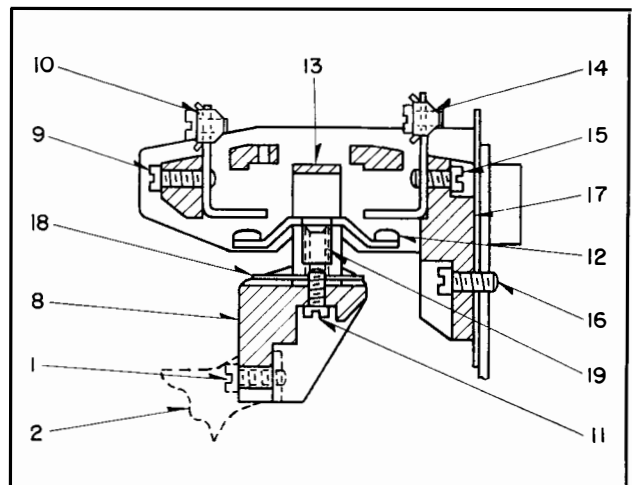
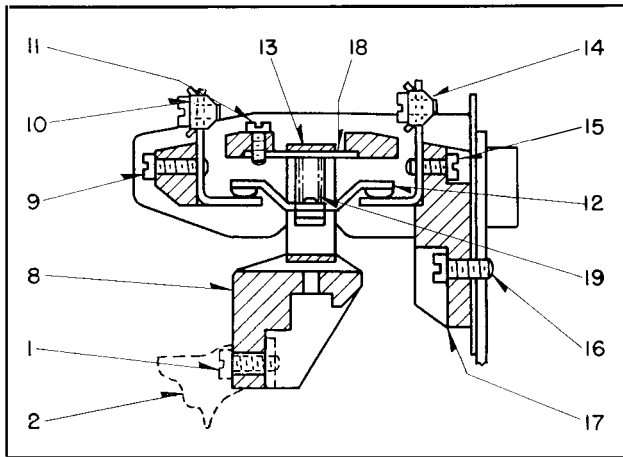

FIG. 2. Typical Normally Open Contact in De-Energized Position
FIG. 3. Typical Normally Closed Contact in De-Energized Position
Changing Contacts From N.O. To N.C. (Refer to Figs. 2 and 3) — To change N.O. contact, Fig. 2, to N.C. position per Fig. 3, first remove crossbar mounting screws (1) and withdraw crossbar (8). Second, remove front stationary contact mounting screw (9) and front stationary contact (10). Third, remove contact saddle mounting screw (11); invert the complete
moving contact assembly and secure it in place in the molded contact base per Fig. 3 using the same screw (11) as before. Replace the front stationary contact (10) and operate the contact manually a few times to make sure it is free. Replace the crossbar assembly (8) and screws (1).
Normally Open Contacts. (See Fig. 2) Inspection of N.O. contacts is accomplished by removing the two crossbar mounting screws (1), whereupon the crossbar (8), complete with the moving contacts, may be removed and all contacts are accessible.
Normally Closed Contacts. (See Fig. 3), Inspection of N.C. contacts is accomplished by first removing the crossbar mounting screws (1) and the molded crossbar (8) complete with any moving contacts that may be attached thereto. Next, the front stationary contact (10) and its mounting screw (9) are removed and screw (11) is removed, allowing the complete moving contact assembly to be taken out for inspection.